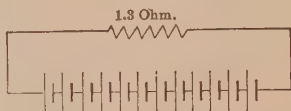

FIG. 178. Twelve cells in series.
(1) Twelve cells in series: Fig. 178.